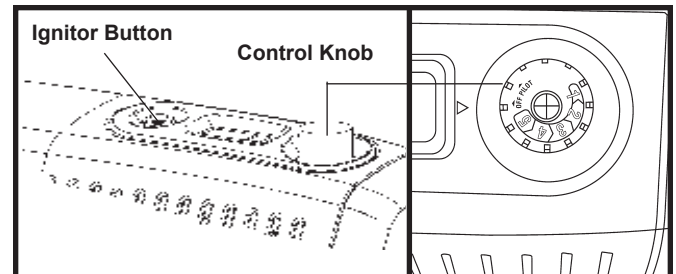

Figure 19.
3. Push in gas control knob and slightly turn clockwise to the OFF position (see figure 19).
4. Wait five (5) minutes. Then smell for gas including near the floor. If you smell gas, STOP! Follow “B” in the safety information above. If you do not smell gas, go to the next step.
5. Push in and turn control knob counterclockwise to PILOT. Press in control knob for five (5) seconds.